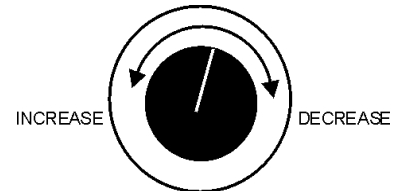

**Figure 41. Frequency Meter (Hz)**
10. The generator's frequency meter (Figure 41) displays the 60 cycle output frequency in **HERTZ**.